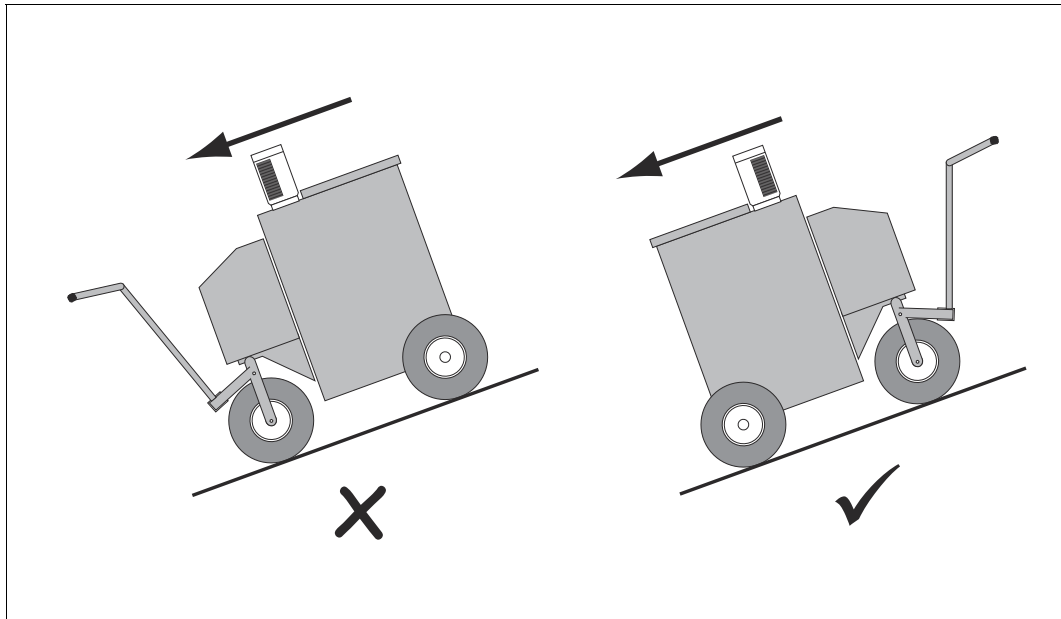

Figure 2/2: Moving on slopes
- Walk behind the device (against the direction of travel, see figure 2/2).